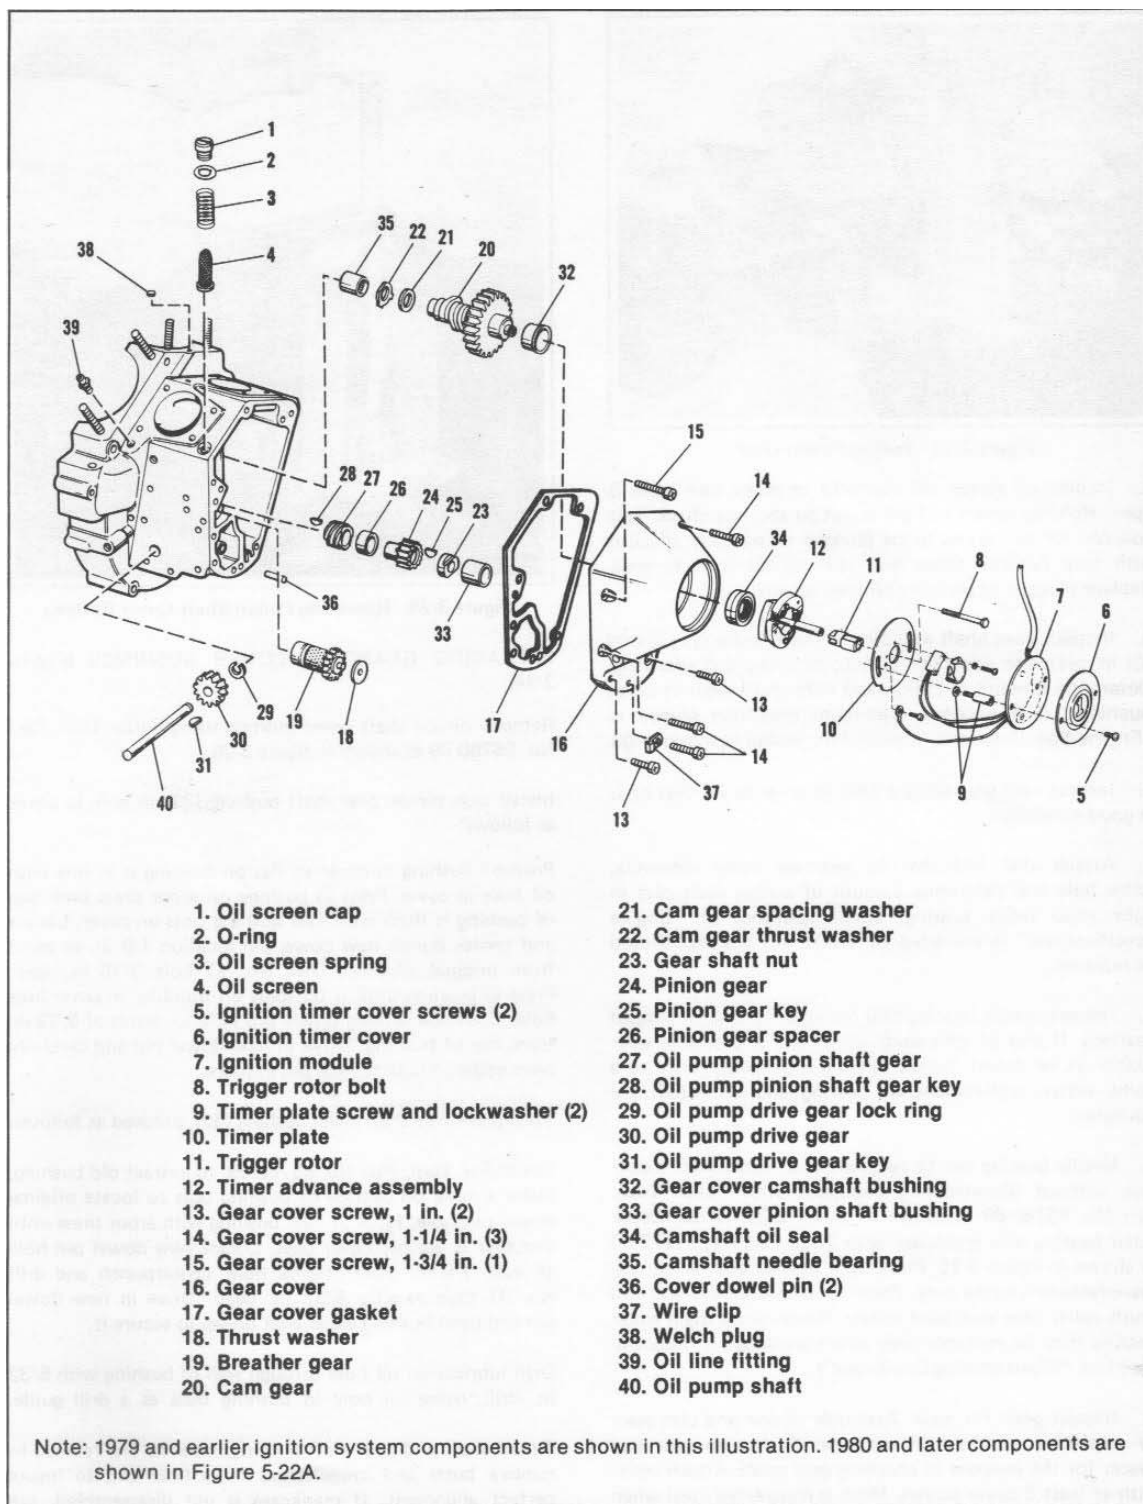

Figure 3-24. Gearcase — Exploded View
DISASSEMBLING GEARCASE (Figure 3-24)
CLEANING AND INSPECTING (Figure 3-24)
REPLACING GEARCASE COVER BUSHINGS (Figure 3-24)
chamfer on oil pump pinion shaft gear (27) faces toward the inside. Tighten pinion gear shaft nut (23, Figure 3-24) to 35 to 45 ft-lbs. Make sure that gear shaft pinion spacer (26) has noticeable end play, indicating that the